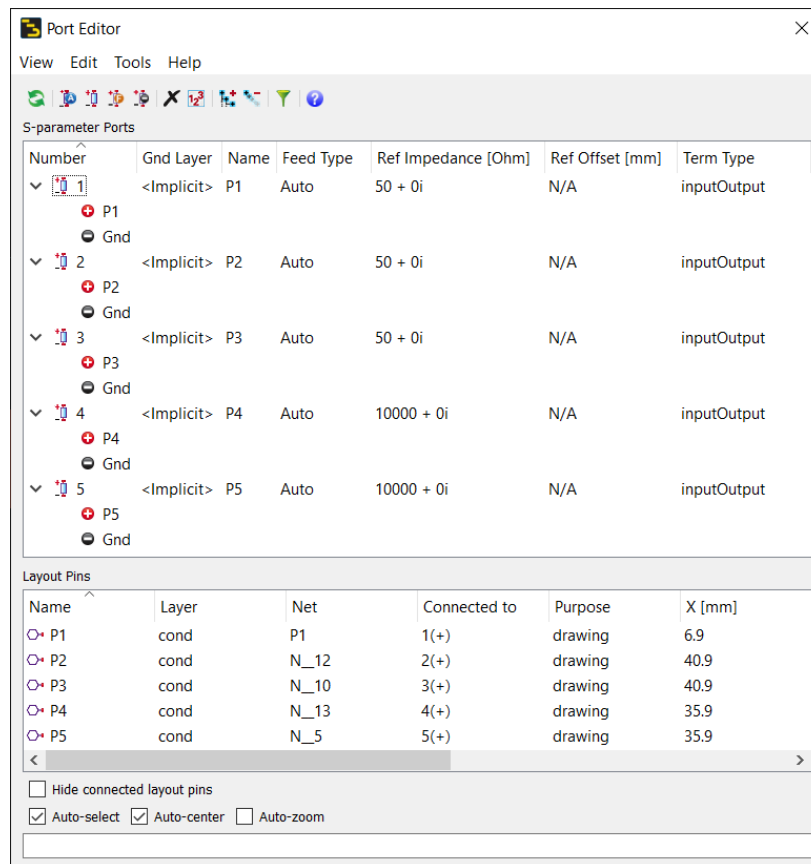

Figure 17. Port Editor showing changed reference impedance for Ports 4 and 5
4. When a new port is created, it is set to 50  $\Omega$  by default. However, because Ports 4 and 5 will be connected to a discrete component in the schematic view, the ports need to be defined as having infinite impedance. To do this, open the **Port Editor** (next to the Substrate icon or **EM > Port Editor**). Change **Ref Impedance** to **10000** (units are ohms) for Ports 4 and 5. This is shown in Figure 17.